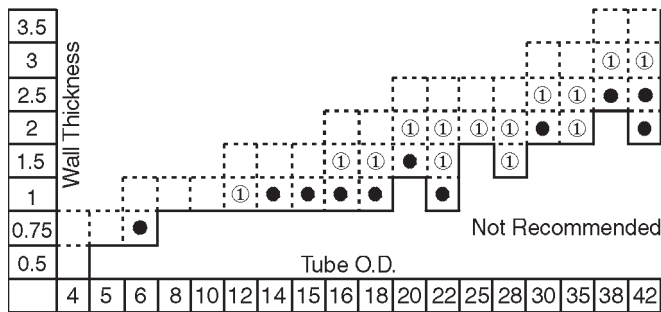

Fig. R47 – Recommended Tube Wall Thicknesses, Steel, SS
Steel tubes made of 37.4 or soft metal tubes can be checked in accordance with Figs. R47 and R48, respectively, to see if they require support sleeves; for plastic tubes, (support) sleeves are always necessary (see Page D21 for E type sleeves).
*Refer to Fig. R47 and R48 for required support sleeves.